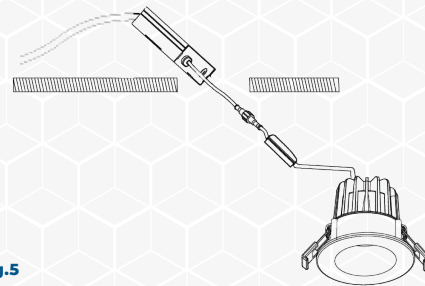

Fig.5
2. Connect the fixture to the hardwire box by inserting and twisting the male / female connectors. **(see Fig.5)**